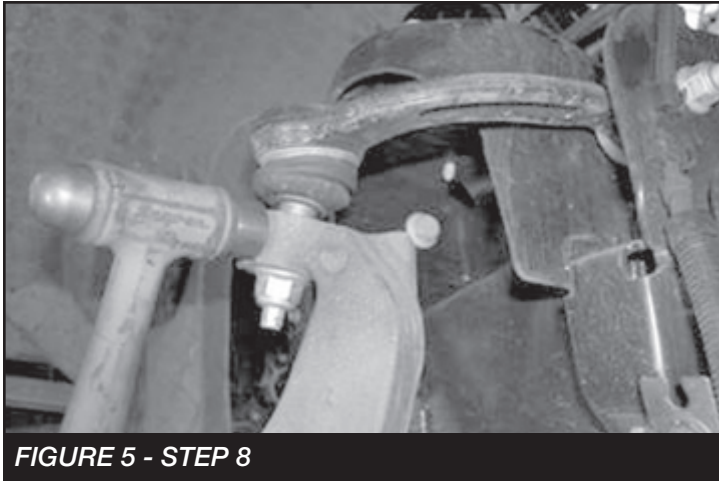

FIGURE 5 - STEP 8
8. Remove the upper and lower ball joint nuts. Disconnect the upper and lower ball joints from the steering knuckle by striking the knuckle with a large hammer next to each ball joint on the knuckle to dislodge the ball joints. Use care not to hit the ball joints when removing. Retain hardware and remove the knuckle with the dust shield and the hub. Use extra care not to over extend the C.V. axle shaft when removing the knuckle. **SEE FIGURE 5**